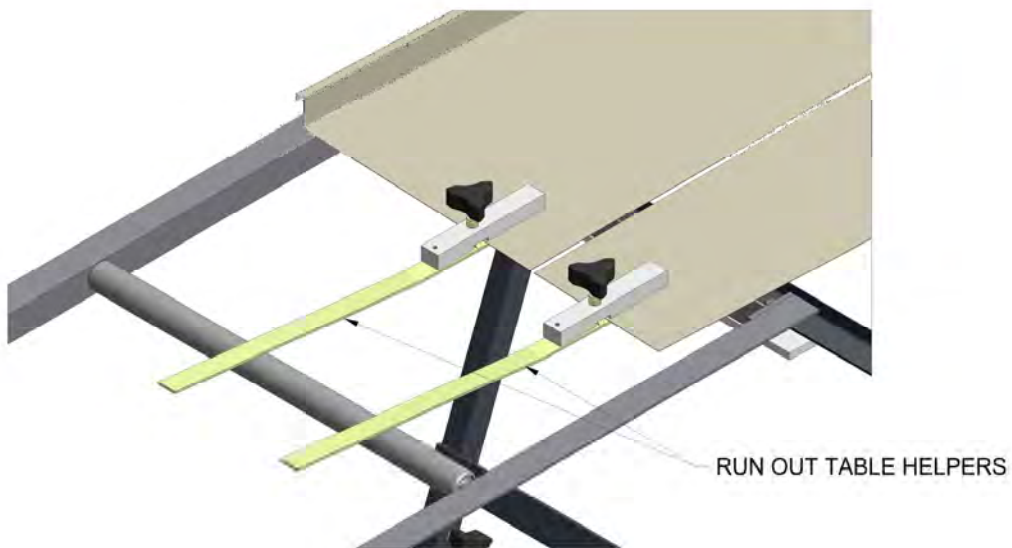

Fig. 6-6. Run Out Table Helpers
To prevent the panel from getting caught on the run out table conveyor rollers as it exits the machine, attach the Run Out Table Helpers as shown in **Fig. 6-6**. Loosen the knobs, slide the helpers over the leading edge of the material, and tighten the knobs back down again.
5. Cut the panel. To prevent the panel from getting caught on the run out table conveyor rollers as it exits the machine, attach the Run Out Table Helpers as shown in **Fig. 6-6, Page 14**. Any additional panels can be cut without needing to mark or measure by feeding them through the entry guides.